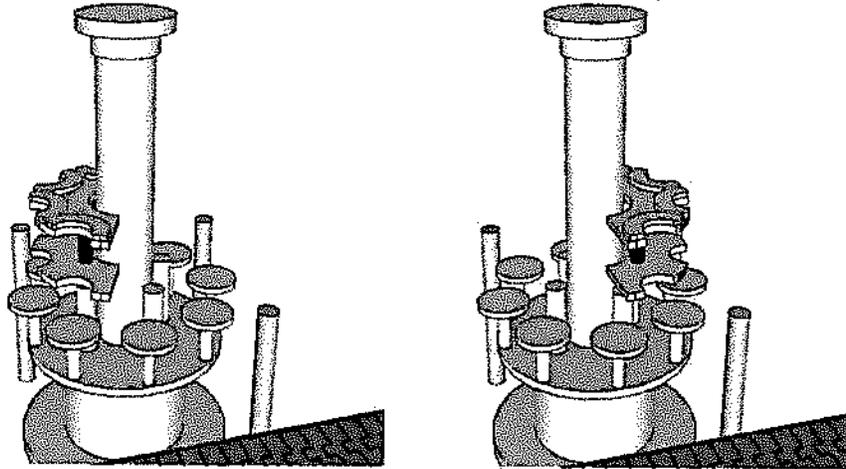

fig.28
- Loosen the second half-starwheel, lift it upwards slightly, turn it toward the free part of the caper (fig.28).